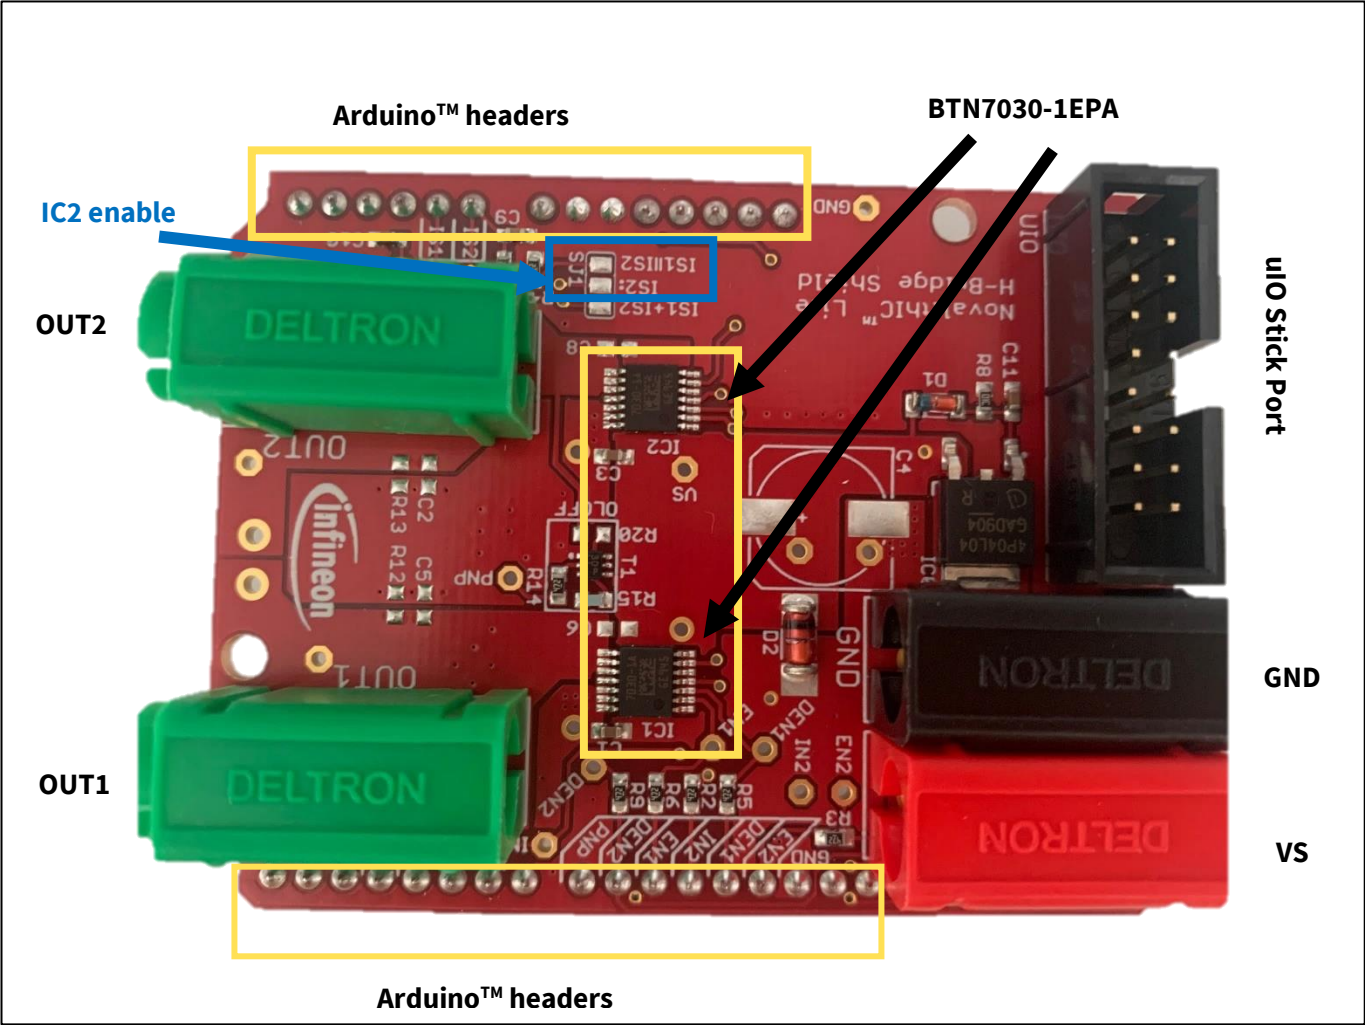

Figure 1 Motor Control Shield photo
As shown in **Figure 1** in order to enable the usage of IC2 it is necessary to solder together the two pads marked in blue frame.
- Connect the uIO Stick between the USB port of your PC and Infineon uIO Stick port (**Figure 1**) on the Arduino shield.